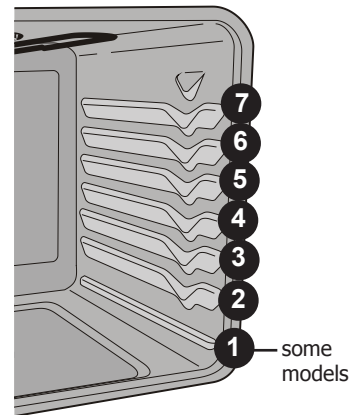

Fig. 1
- For best results when baking cakes using 2 oven racks, place racks in positions 2 and 5 (Figure 1).
Use the broil feature to cook meats that require direct exposure to radiant heat for optimum broiling results. Refer to **Suggested broil settings table** and Figure 1 for rack positions.